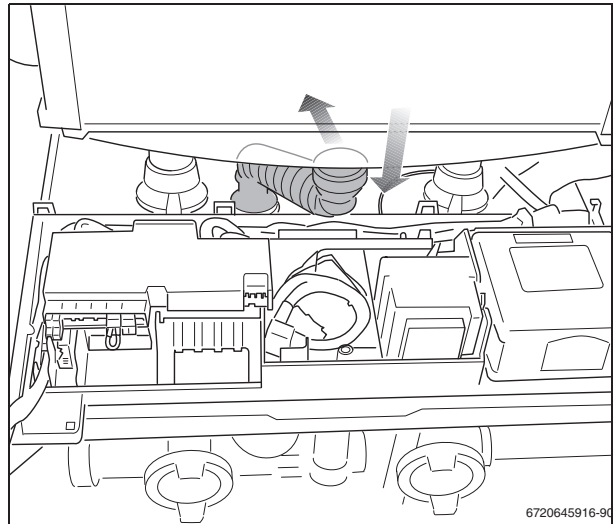

Fig. 89 Removing the condensate trap hose
- Disconnect the flexible condensate drain hose and bend it backwards (fig. 89).